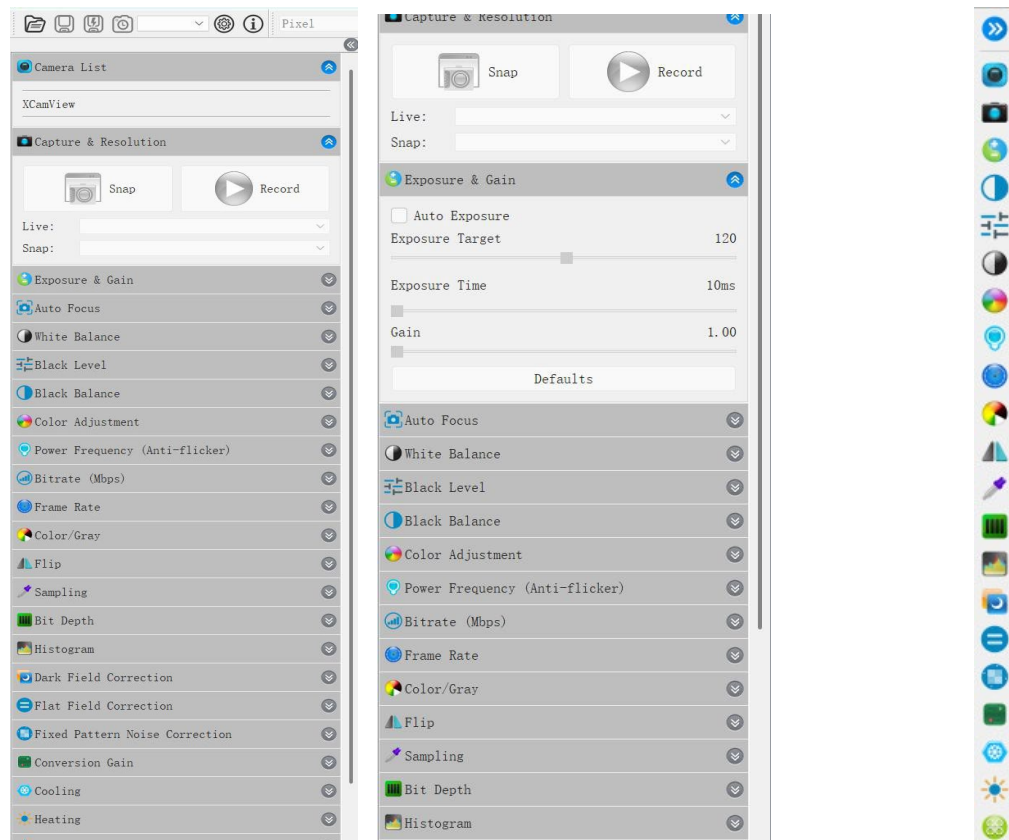

Figure 3-3 Layout Diagram of Docking Window/tools Bar on ALTRAvIEW LITE Control Panel
The ALTRAvIEW LITE control panel is positioned on the left side of the main interface, as shown in Figure 3-3. It features two layout modes switchable via the arrow button (red box) at the top: (1) Docked Windows and (2) Toolbar. In Docked Windows mode, a list of all control panels is displayed, allowing users to hide or expand them by clicking their titles (two left images). In Toolbar mode, only control panel icons are shown, with users clicking an icon to reveal its corresponding panel (right image).